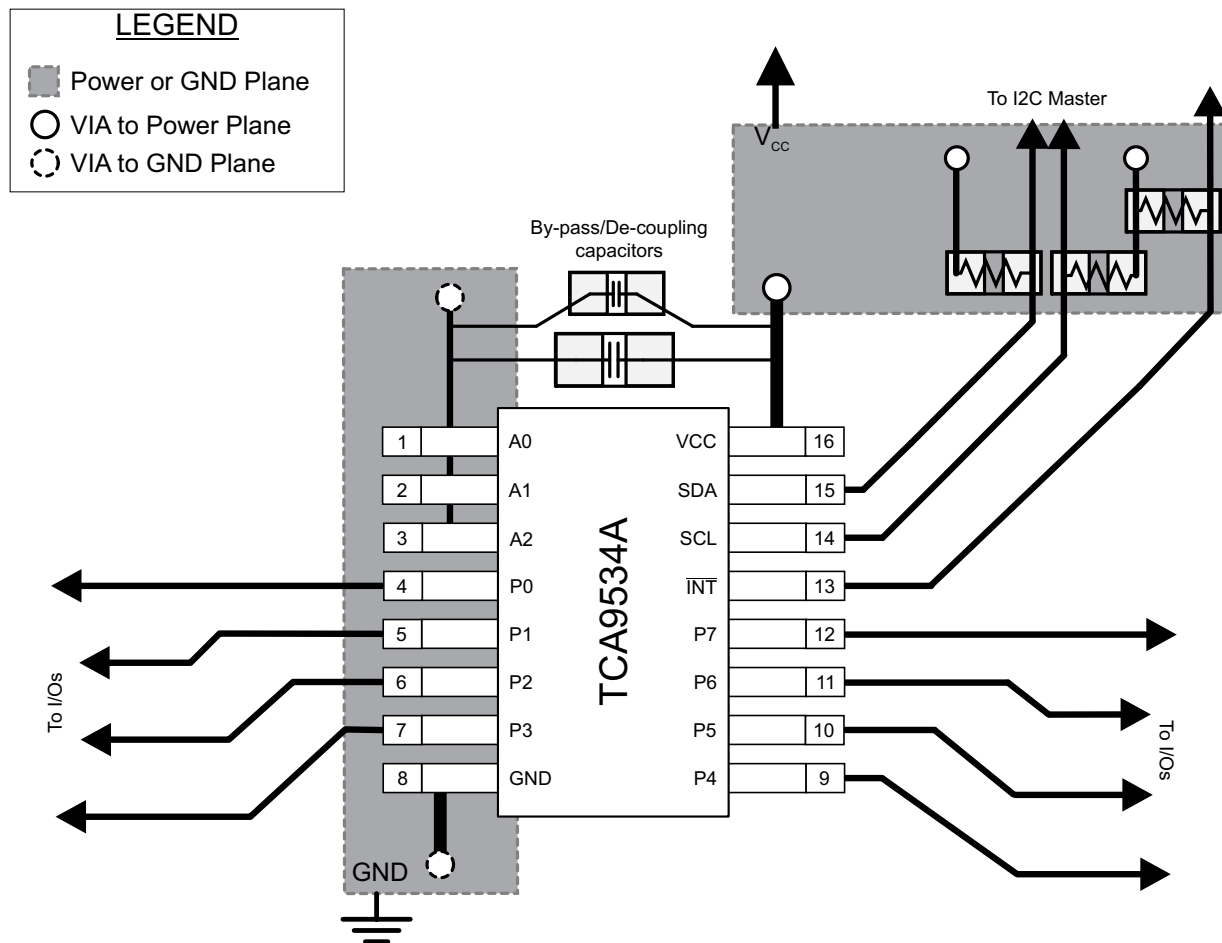

Figure 41. TCA9534A Layout
In all PCB layouts, it is a best practice to avoid right angles in signal traces, to fan out signal traces away from each other upon leaving the vicinity of an integrated circuit (IC), and to use thicker trace widths to carry higher amounts of current that commonly pass through power and ground traces. By-pass and de-coupling capacitors are commonly used to control the voltage on the VCC pin, using a larger capacitor to provide additional power in the event of a short power supply glitch and a smaller capacitor to filter out high-frequency ripple. These capacitors must be placed as close to the TCA9534A as possible. These best practices are shown in Figure 41.
For the layout example provided in Figure 41, it is possible to fabricate a PCB with only 2 layers by using the top layer for signal routing and the bottom layer as a split plane for power (VCC) and ground (GND). However, a 4 layer board is preferable for boards with higher density signal routing. On a 4 layer PCB, it is common to route signals on the top and bottom layer, dedicate one internal layer to a ground plane, and dedicate the other internal layer to a power plane. In a board layout using planes or split planes for power and ground, vias are placed directly next to the surface mount component pad which needs to attach to VCC or GND and the via is connected electrically to the internal layer or the other side of the board. Vias are also used when a signal trace needs to be routed to the opposite side of the board, but this technique is not demonstrated in Figure 41.